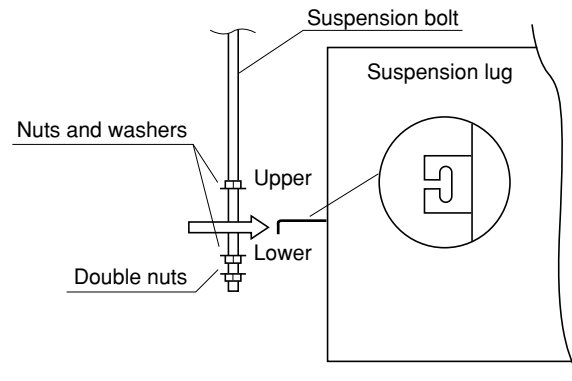

Fig. 3-24
- (2) Thread the 3 hexagonal nuts and 2 washers (field supply) onto each of the 4 suspension bolts as shown in Fig. 3-24. Use 1 nut and 1 washer for the upper side, and 2 nuts and 1 washer for the lower side, so that the unit will not fall off the suspension lugs.